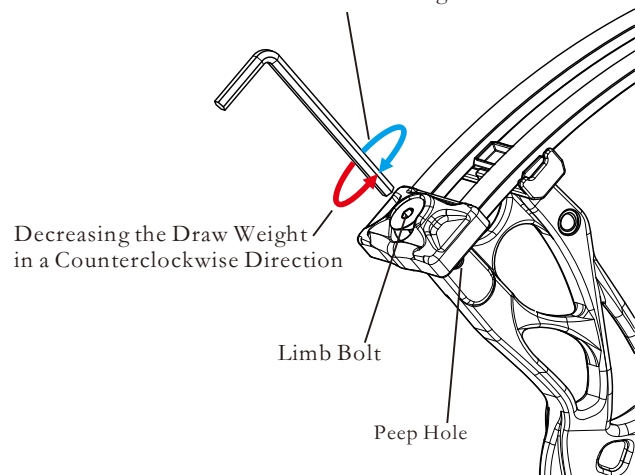

fig. 6
- To ensure the limbs are tightened the same amount, measure the vertical distance from the string to the limb pocket bolt; this is called the projection distance. If the projection distance of the upper limb is the same as the projection distance of the lower limb, then the cams should be synchronized. (Fig. 6)
- Do not back the limb bolt out too much when decreasing the draw weight. The peep hole (Fig. 6) allows you to see the limb bolt while adjusting. Stop decreasing the draw weight when you see the end of the limb bolt in the peep hole.